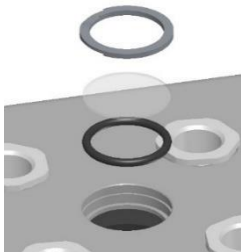

Figure 1.2: Assembly order of spare parts.
5. Place the new filter on top of the 0-ring (The big one of the 17 filters), see figure 1.2 for assembly order.